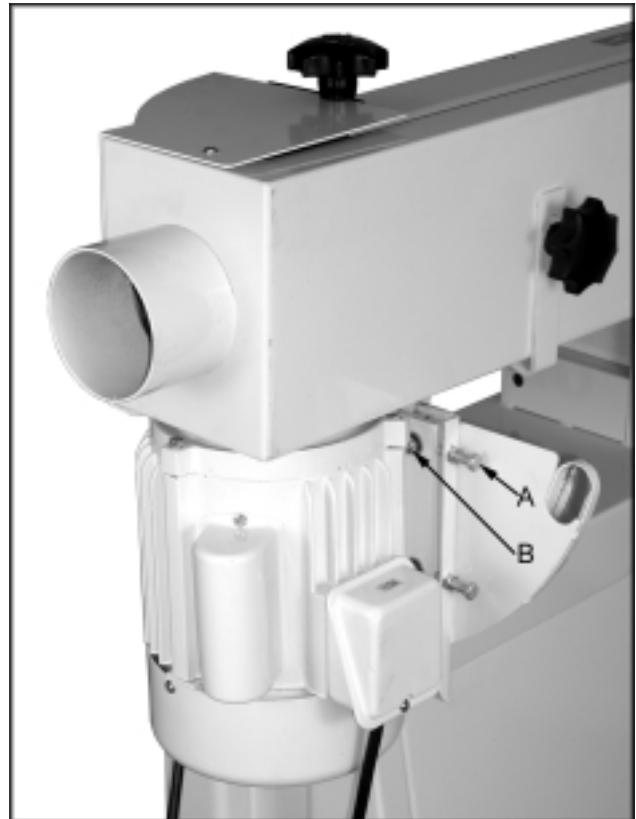

Fig. 12
The EHVS-80CS comes with tracking adjustment bolts (A, Fig. 12) on the motor plate. These are set at the factory and should not require any further adjustment. If, however, you are not able to track the belt using the belt tracking adjustment assembly on the sanding platen, the motor mount bolts will have to be adjusted:
2. Slightly loosen the four motor mount nuts (B, Fig. 12) just enough so the tracking bolts can make an adjustment.
4. Turn one bolt (A, Fig. 12) a $\frac{1}{4}$ turn and rotate the sanding belt by hand to observe which direction the belt is tracking. If it is traveling in the direction needed to correctly track the belt, tighten both locking nuts and fine tune the tracking with the belt tracking assembly on the platen.